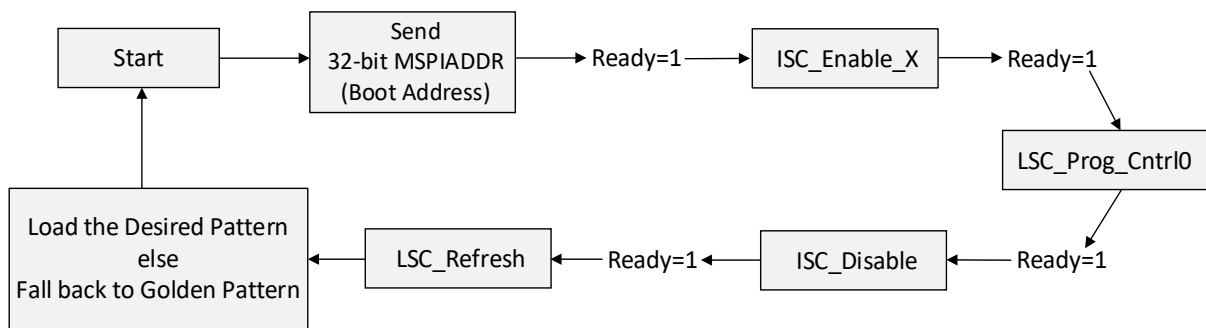

Figure 5.2. Implementation of Multi-Boot Feature Using MULTIBOOT Primitive Flow
- **Lmmi host controller:** This controller implements a state machine controller to send the necessary commands to the `CONFIG_LMMI` block, and sends the boot address to the `MULTIBOOT` primitive to boot the desired Alternate pattern stored in the internal or external SPI flash. The controller performs the following sequences. Refer to flow diagram below (Figure 5.2) for more details.